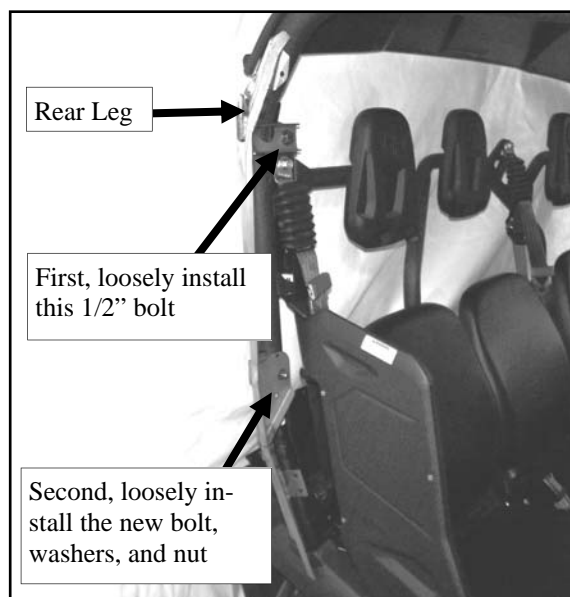

Fig. 6.4 (View of rear right corner)
6.4 See fig. 6.4. Position the rear leg as shown. Loosely install the 1/2" x 1" long bolt in the top to hold the leg in place, then install the following hardware where the O.E.M. hardware was removed. Be sure the curved washers are against the R.O.P.S. tubing and the flat washers are under the head of the bolt and nut. Do not tighten at this time.